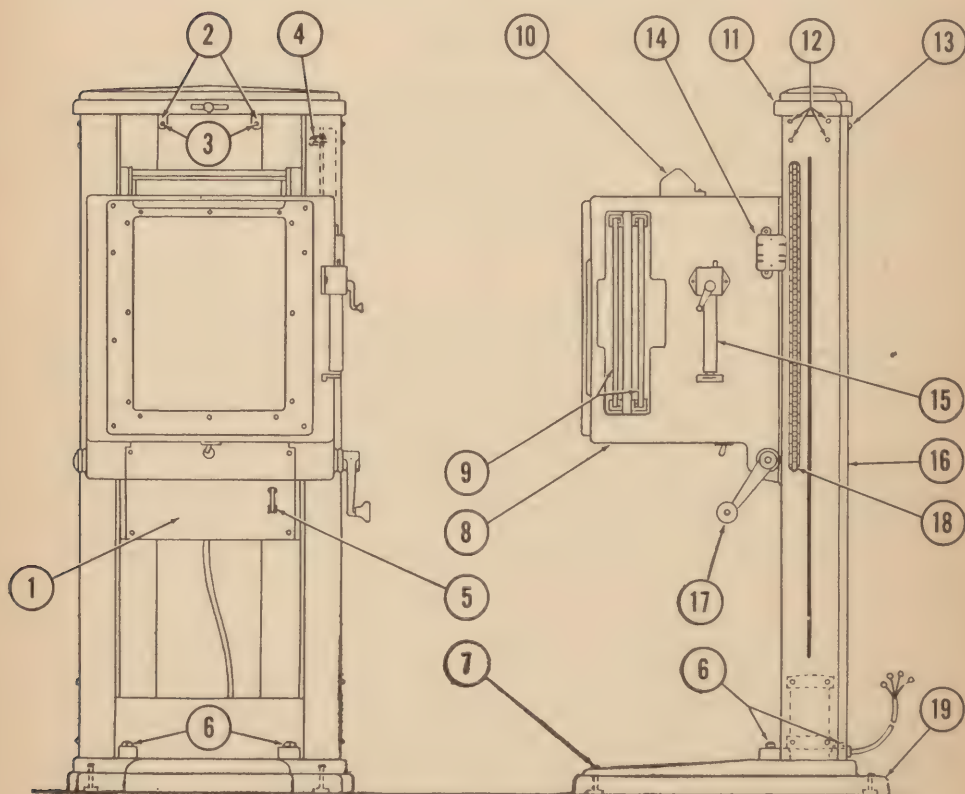

Figure 6. External parts of General Electric Cassette Changer.
Unpack the base casting, 6R05252 (fig. 6). Next unpack the housing, 6R05262-64-66-68 (fig. 6), which contains the changing and raising mechanism. The large box containing the vertical or upright structure should be placed on the floor so that the vertical structure will rest on its back. The top, sides, and ends of the shipping box shall then be knocked out. The bottom of the box is so constructed that the vertical structure is blocked up, making it possible to fasten the base casting, 6R05252 (fig. 6), and to install the housing.
**10. ASSEMBLY. a. General.** Fasten the base to the vertical structure, using the four bolts furnished, SR00568 (fig. 6). The zinc-plated holes are placed at the rear. Remove the two screws, SR00044 (fig. 6), at the top rear of the vertical structure and take out the two threaded studs, 6R05336 (fig. 6), from the front side. Remove the four screws, SR00562 (fig. 6), on each side at the top and lift off the top casting, 6R05260 (fig. 6). Place the casting aside temporarily. Remove the height-adjustment stop, 6R05338 (fig. 6). The housing for the motor and raising
mechanism can now be installed. To avoid any possibility of marring the surfaces of the upright structure when installing the housing, it is recommended that a cloth be placed over each column from the top to a point about midway down. This will prevent the housing from coming in contact with the front side of the columns when positioning the housing. As soon as the rollers and gears are engaged, these cloth. can be removed. Using two men, one at each side, place the housing into the upright structure by inserting it from the top end. Carefully guide it into place so that the rollers engage their respective tracks properly. Turn the crank, 6R05270 (fig. 6), so that the teeth on the pinion gears will mesh with the teeth on the gear racks. Run the housing into the structure far enough to permit reinstallation of the height-adjustment stop, 6R05338 (fig. 6). Place the top casting in position, then fasten it securely to the uprights by means of the screws, SR00562 (fig. 6), on each side. Insert the two threaded studs, 6R05336 (fig. 6), in the ears of the top casting, and insert the screws, SR00044 (fig. 6), through the rear panel, tightening them down firmly. The entire assembly can now be stood upright and moved into the position in which it is to be used.
**b. Wall mounting.** The base casting for wall mounted installation is fastened to the vertical structure in exactly the same manner as described for floor type installations. Provision is made for anchoring the unit to the wall by means of the ears, 6R05340 (fig. 6), on the top casting. First, remove the two screws, SR00044 (fig. 6), and the two studs 6R05336 (fig. 6). Bolts or screws can be used for anchoring to the wall, depending upon the wall construction.
**c. Converting to left-hand operation.** The cassette changer is supplied arranged for right-hand operation of the raising and lowering mechanism. The cassettes can be inserted from either side. If it is desirable to have the raising mechanism arranged for left-hand operation, proceed as follows: remove the bottom cover, 6R05290 (fig. 6), by taking out the eight binding head screws and washers which fasten it in place. This permits access to the raising mechanism. Referring to figure 7, loosen the setscrew and drive out the pin, 6R05292, in the gear, 6R05324, on the end of the crankshaft, 6R05300. Pull out the shaft and crank. Loosen the two setscrews, 6R05296, in the sleeve, 6R05294. Drive out the pin, 6R05342, in the gear, 6R05326, and remove the shaft, 6R05344. Duplicate holes for the assembly just removed are provided on the left side of the housing. Pry off the cap, 6R05346, on the left of the housing and reinstall on the right. Reassemble the mechanism on the left side in exactly the same manner as it was found in the right. Be sure all pins have been installed and all setscrews firmly tightened. Remove the scale, 6R05274 (fig. 6), and the indicator, 6R05276 (fig. 6), from the right-hand column and install them in the same manner on the left column in the holes provided.
**d. Leveling.** The cassette changer can be leveled by means of the floor pads, 6R05278 (fig. 6), at the front and rear of the base casting. Check with a spirit level. Make certain that the cassette changer is exactly in line with the center of the X-ray table.
**f. Height indicator scale.** The height scale, 6R05274 (fig. 6), on the cassette changer shall be set up to correspond with the height scale on the tube stand. With the X-ray tube stand carriage turned to face the cassette changer, and with the arrow marked "Table Top" of its index scale opposite "25" on the tube column scale, measure the distance from the floor to the focal spot of the X-ray tube. Then raise or lower the cassette changer so that the distance from the center of the cassette changer panel to the floor will be the same as the distance just measured at the tube stand. Keep the cassette changer in this position and move the height scale so that "25" will be directly opposite the indicator. The height scale on the cassette changer is mounted in a small channel. To raise or lower the scale, simply force it up or down by pushing the scale from the top or bottom. If the scale binds, it can be pried off by inserting a screw driver beneath the bottom edge and working upward.
**g. Brake adjustment.** If the cassette is not parallel with the front panel of the changer, adjustment should be made on the brake screw, 6R05280 (fig. 6). If the brake is too tight, the brake screw should be turned to the left slightly. If the brake is too free, the screw should be turned to the right. The brake will have to be adjusted slightly when the size and type of cassettes are changed.
**h. Immobilization device.** If the immobilization device, 6R05282 (fig. 6), is a part of the installation, it shall be fastened in place, as shown in figure 6, using the four machine screws furnished. Mounting holes are provided in the housing. Since the cassette changer leaves the factory arranged for right-hand operation, these holes will remain open on the
**i. Paper dispenser.** If the paper dispenser, 6R05286 (fig. 6), is a part of the installation, it should be fastened at the top of the housing, as shown in figure 6. The necessary mounting holes are provided in the housing and the mounting screws are furnished with the dispenser.
**b. Testing the unit.** Place two 14- by 17-inch cassettes in the cassette changer channels, 6R05312 (fig. 6), with the front of the cassettes out-
ward. Set the tube stand stereo-shifter as indicated in its directions for operation. Place the control stand line switch in the ON position. Press the "stereo" hand-switch button; the cassettes should rotate so that the rear cassette moves to the front of the changer and the tube carriage should move the distance for which it was set. Repeat the above test ten times and observe if the cassette always ends its travel so that the front of the cassette is parallel with the front of the changer. If the cassette is not parallel, adjustments should be made on the brake screw, 6R05280 (fig. 6), as indicated in paragraph 10g. When using the magnetic release type of tube stand stereo-shifter, it is not necessary to hold the "stereo" button down during the entire excursion of the cassette mechanism. However, on the motor type stereo-shifter, it is necessary to press the button until the X-ray tube has completed its travel on the tube stand.
**25. BRAKE ADJUSTMENT.** It may be necessary to adjust the brake, 6R05310 (fig. 6), in winter and summer. When the operating temperature is high the gear grease may become less viscous. In this case, the mechanism may become too free and the unit may recycle until the control line switch is turned off. (See par. 10g.)